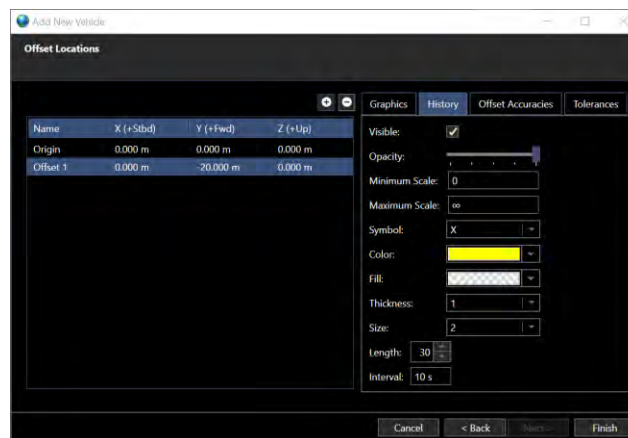

FIGURE 7-15 NEW VEHICLE WIZARD - OFFSET LOCATIONS PAGE - HISTORY TAB
- e. Edit the **History** (see Figure 7-15), this controls the capture and display of a history of points in any open Map view